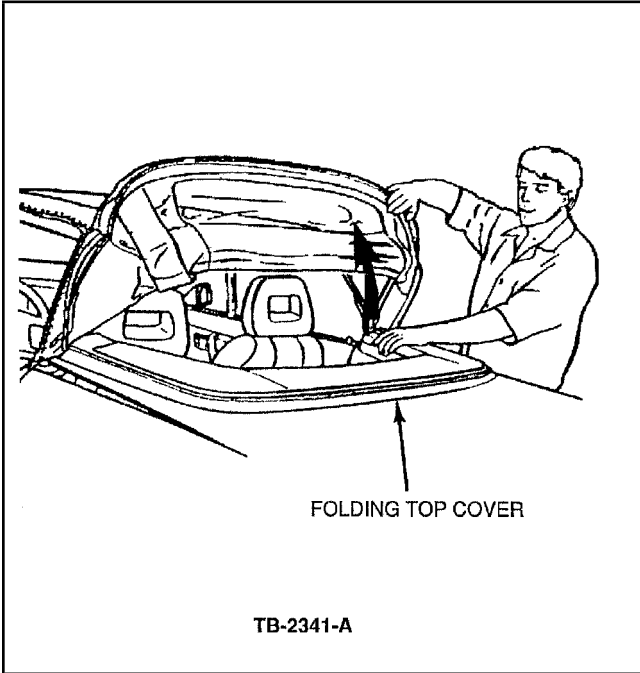

Figure 1 - Article 91-21-1
1. Raise the rear of the convertible top, Figure 1. Refer to the Owner Guide for detailed procedures.